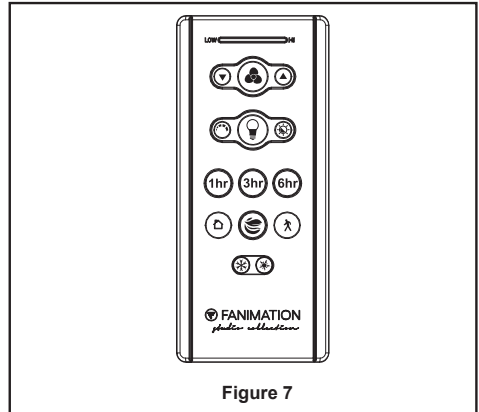

Figure 7
7. Remote functions: (Figure 7)